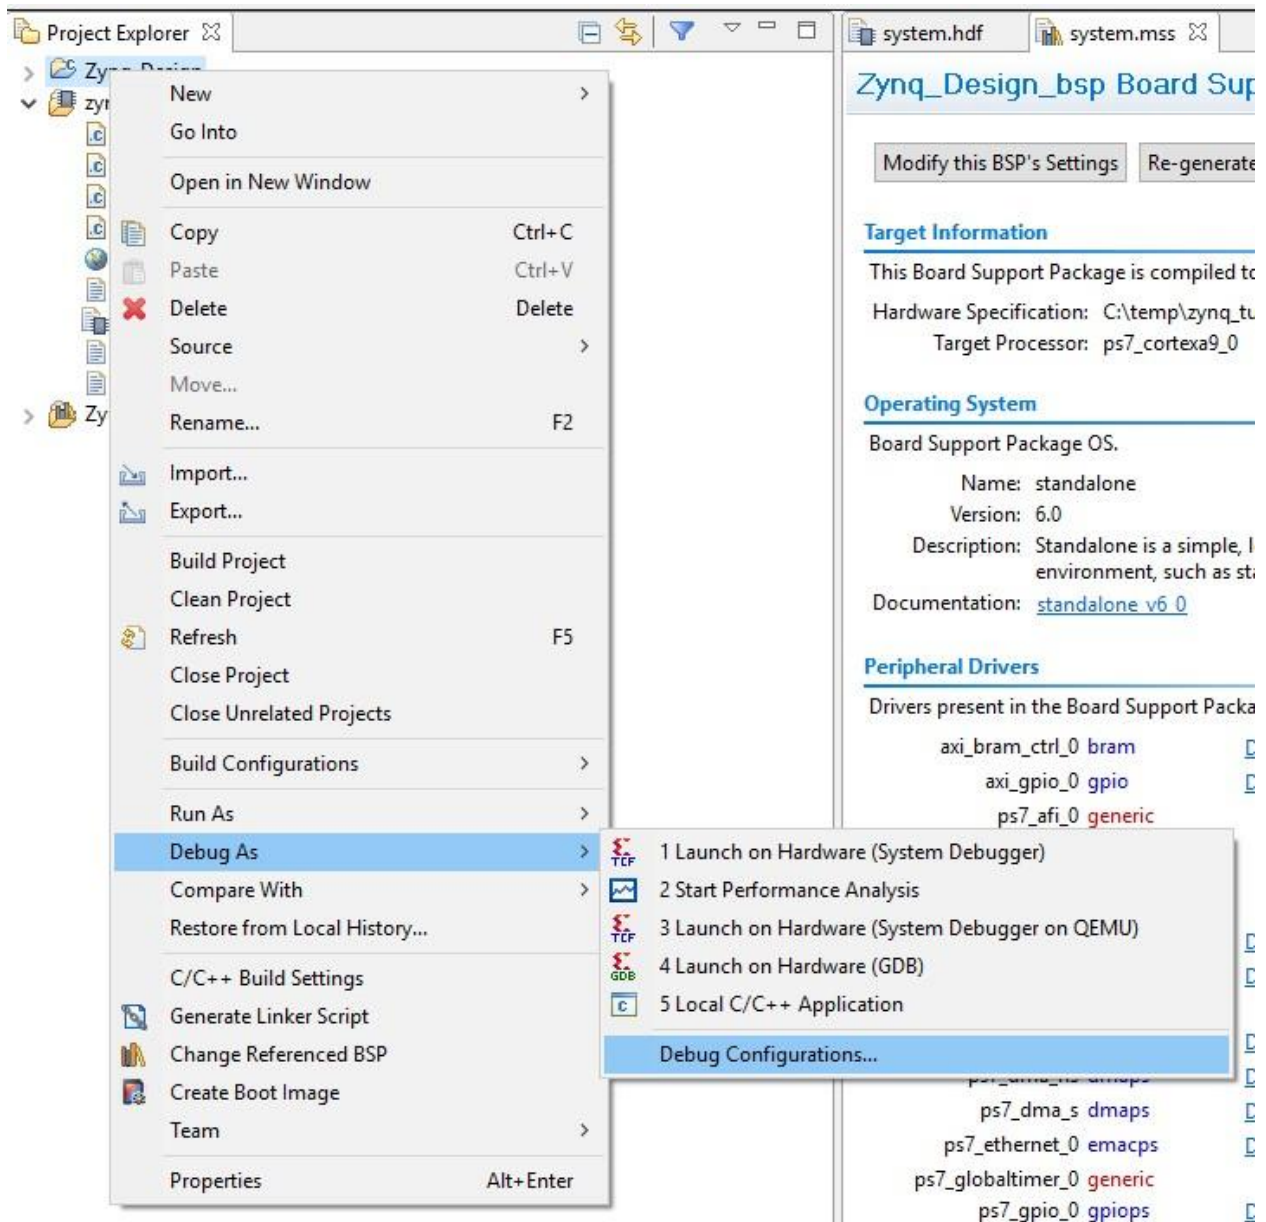

Figure 29: Debug Configurations menu option.
4. Select **Debug As** → **Debug Configurations** (Figure 29).